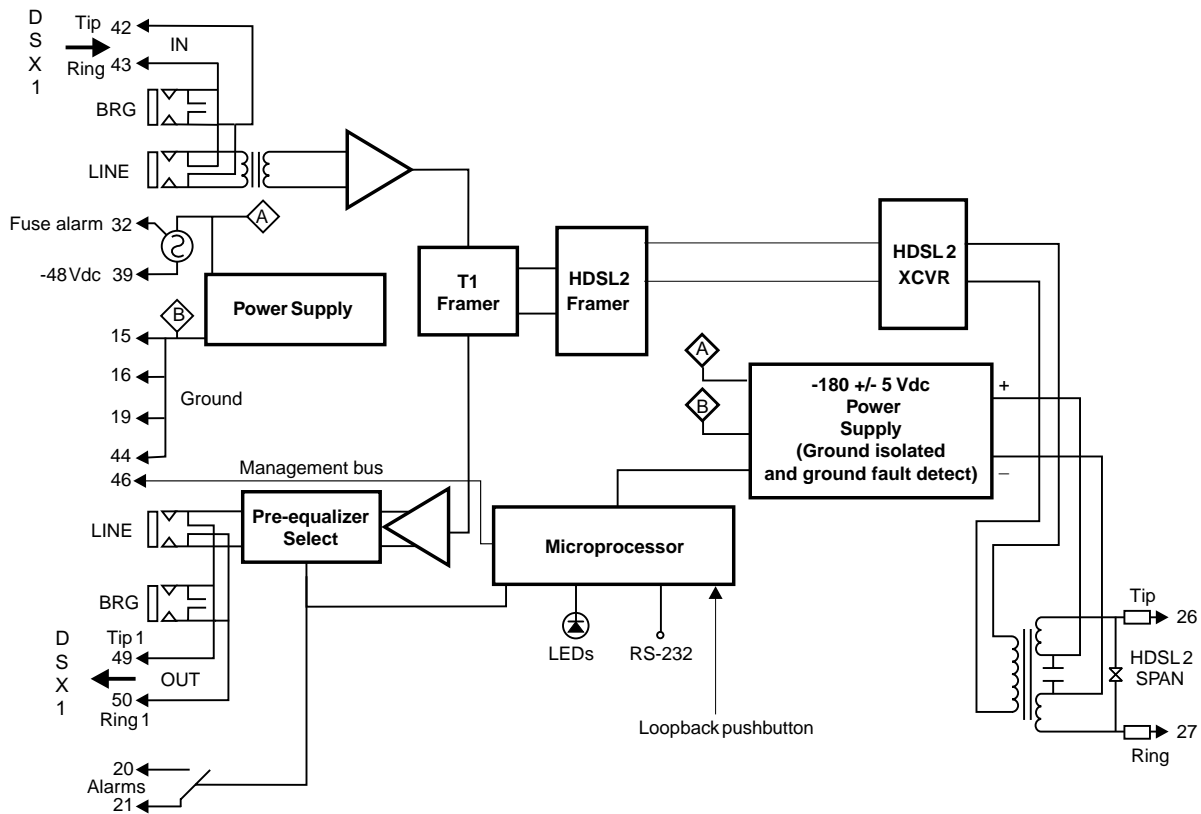

Figure 31. H2TU-C-231 List 4E Block Diagram
A block diagram of the H2TU-C-231 is shown in Figure 31. The H2TU-C-231 receives a 1.544 Mbps DSX-1 data stream from the DSX-1 digital cross-connect interface. The H2TU-C contains a DS1 frame synchronizer controlled by an 8-bit microprocessor that determines the type of framing on the DS1 stream and synchronizes with it. The H2TU-C recognizes Superframe (SF) or Extended Superframe (ESF) framing. When the data is unframed, the H2TU-C arbitrarily defines a frame bit.